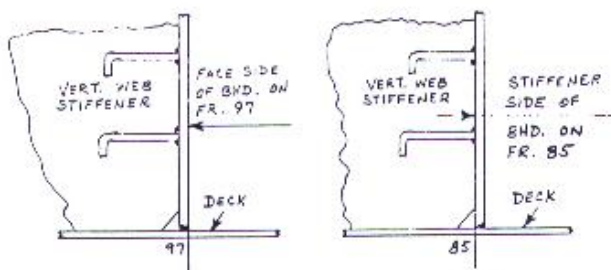

Fig 8 -- Examples of Frame Line Location for Transverse Bulkhead
**LOCATING FRAME LINE AT BULKHEAD** ---When it becomes necessary to set a transverse bulkhead or other member by means of a frame line marked on the adjacent members, the frame line must first be determined at the bulkhead itself. (See Fig. 8) In other words, it must be found out whether the face side (smooth side) of the bulkhead is to be directly on the moulded line, or whether the stiffener side of the plating is to be on the moulded line. This information must be obtained from the drawings. No specific rule will cover all cases, and the frame line is sometimes on the forward side of the bulkhead, and sometimes on the after side. In case of a discrepancy between two drawings showing the same member (for instance if the shell drawing shows the bulkhead plating aft of the frame line, while the bulkhead drawing shows the plating thickness forward of the frame line) the shell plan shall be assumed correct for the purpose of setting the bulkhead.